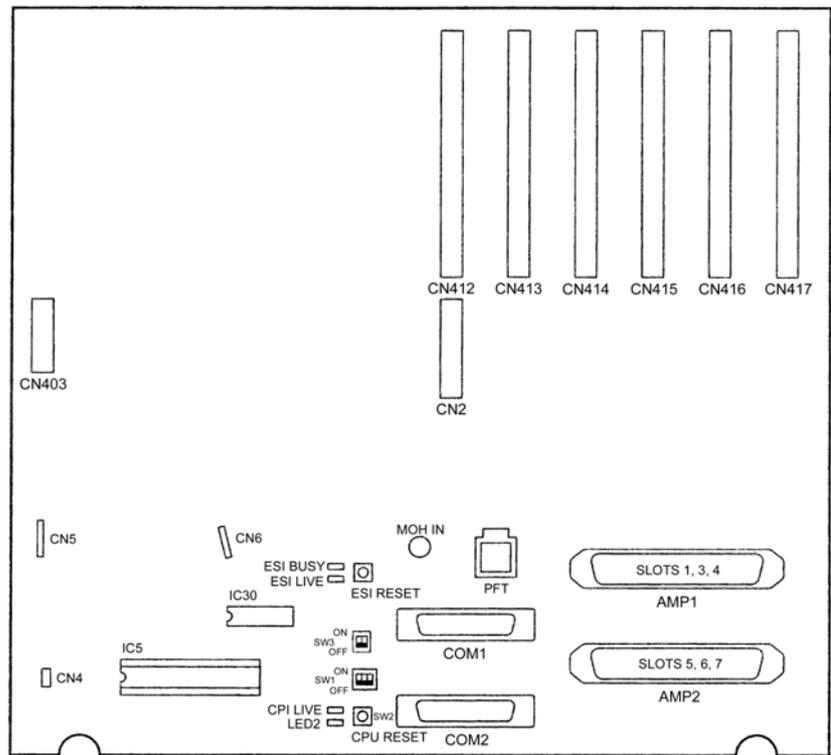

Figure 5-10 KSU MBD-U13 Unit
The MBD-U13 Unit (installed on the B48-U13 KSU) is the Central Processing Unit for the Xen Axis system. This ETU has a Central Processing Unit and a Microprocessing Unit and supports a maximum of 48 ports. Refer to *Figure 5-10 KSU MBD-U13 Unit*.
6. Install Eprom into Socket IC5 (Refer Fig 5-10)